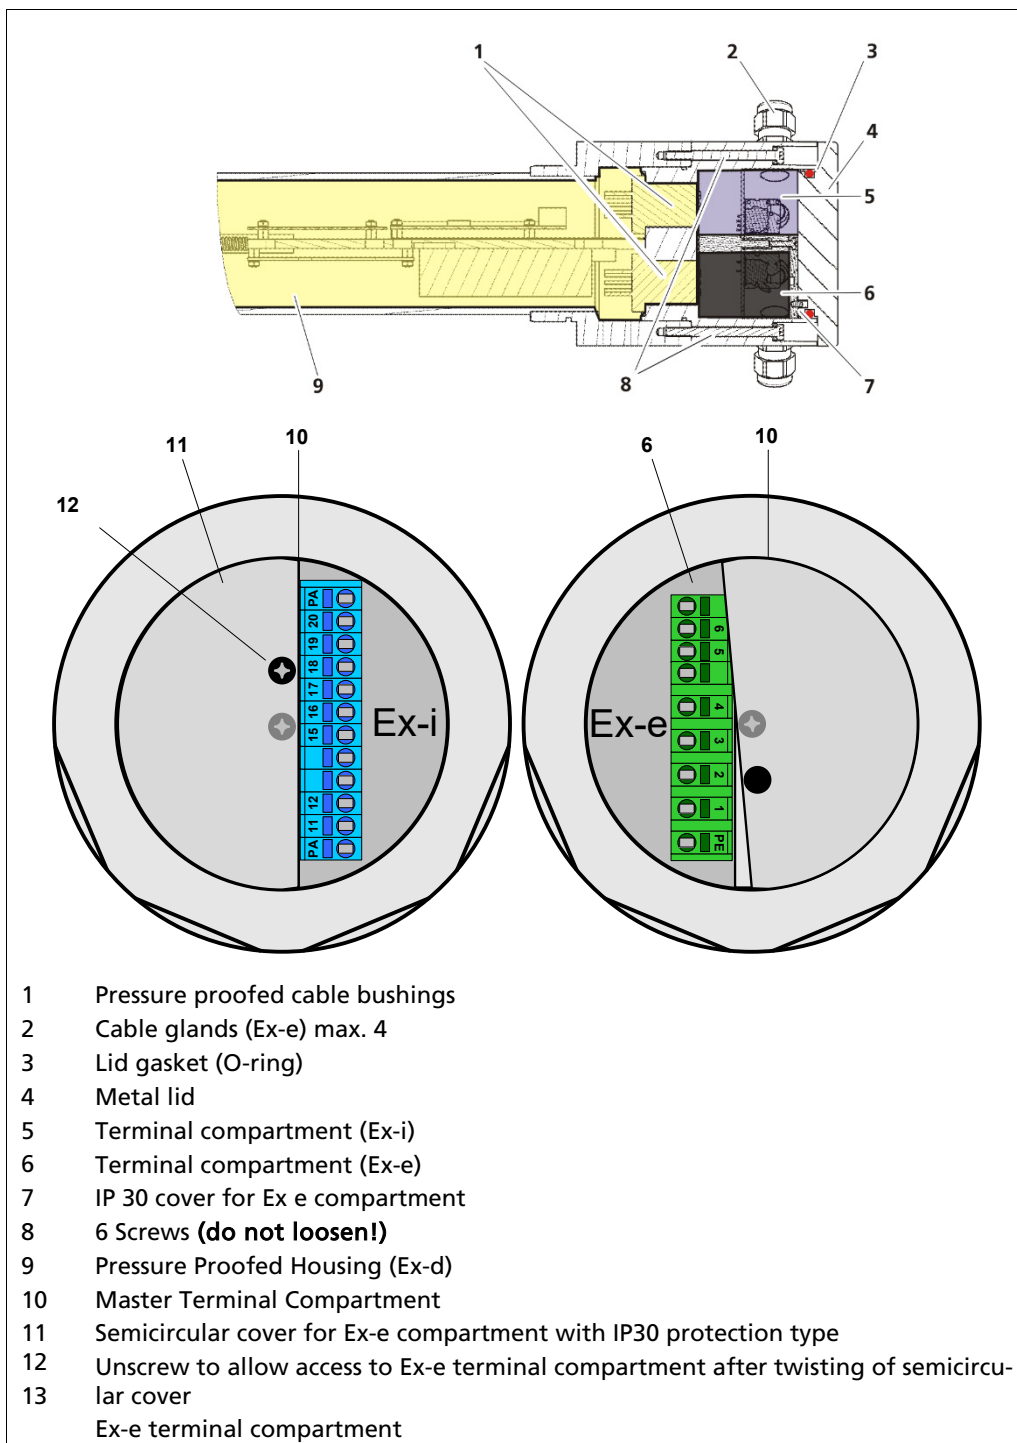

Fig. 3 Ex-i - Concept LB 480-xx-3C, LB 480-xx-4C
- The housing cover (metal lid) covers the entire terminal compartment (see Fig. 3).
- The semicircular plastic cover (Ex-e cover) covers the non-intrinsically safe terminals (see Fig. 3).
5.8.3 Explosion Proof (XP)